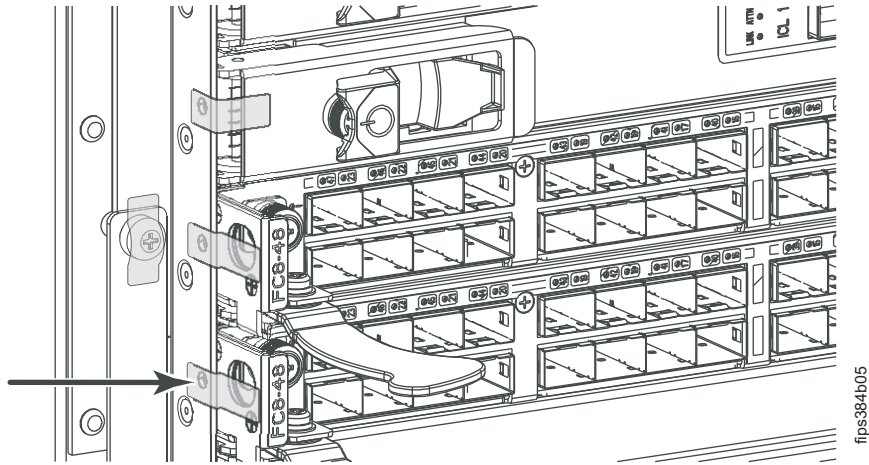

Figure 11. Blade FIPS seal application for 2499-192 port blade with stainless steel ejector handles
Figure 11 on page 14 shows the seal location on the blades with stainless steel ejector handles on the 2499-192. Refer to the figure when performing the procedure. Not all blades that are listed in Table 3 are shown, but seal placement is the same for each.
2. Apply one seal beginning on the side of the chassis frame and wrap it onto the surface of the stainless steel ejector handle on the blade, as shown next to the arrow in Figure 11.